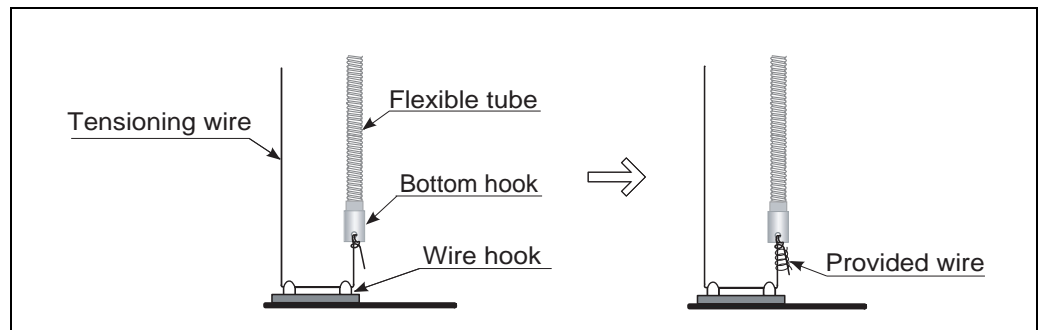

Figure 5-3: Tensioning wire mounting
5. Wrap the tensioning wire twice around the hole on the bottom hook, tighten it and wrap the provided wire around it (see Figure 5-3).